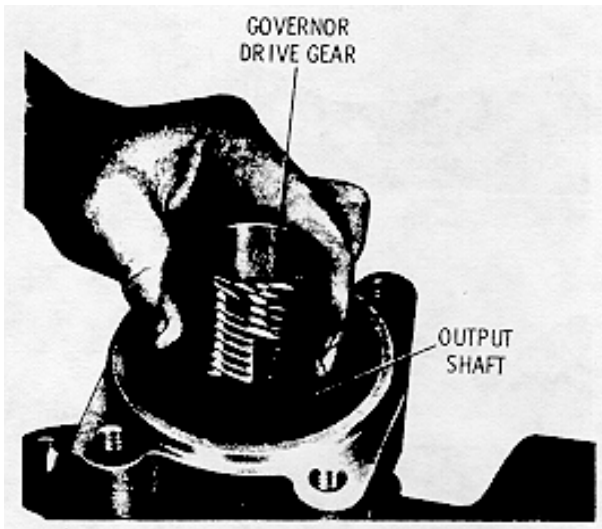

Fig. 7-15. Installing governor drive gear
(2) Position the transmission, rear end upward. Install the governor drive gear, engaging its slot with the pin in the output shaft (Fig. 7-15).